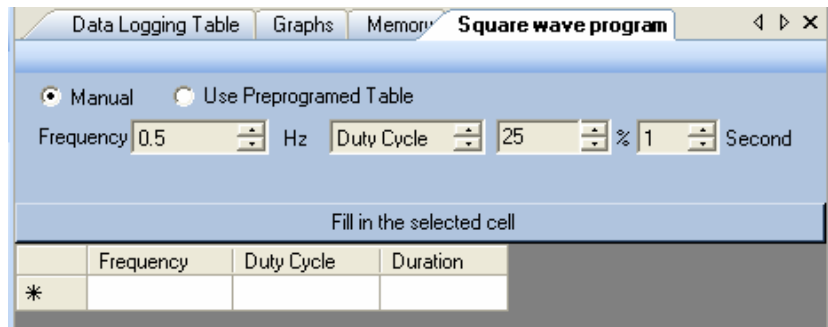

Figure B-13 Square wave program operations
- ✓ There are two types of operations as shown in figure B-13:
- 1 Set the frequency, duty cycle/pulse width and duration accordingly (figure B-13).